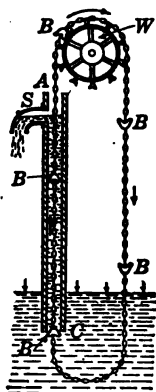

FIG. 59.— Chain pump.
66. The Chain Pump. We have represented in Fig. 59 an efficient pump which is extensively used for shallow wells and cisterns. AC is a wooden tube about three inches square through which a hole about $1\frac{1}{2}$ inches in diameter is bored lengthwise. When the ratchet wheel W is turned by a crank, a continuous chain is pulled up through the tube and lowered into the well on the other side of the wheel. Rubber buckets B which fit the pump tube air-tight are inserted in the chain at intervals of 6 or 8 ft. As a rubber bucket is pulled up through the pump-stock AC it removes the air, and the water follows, being lifted to the spout partially by atmospheric pressure and partially by the bucket that follows.